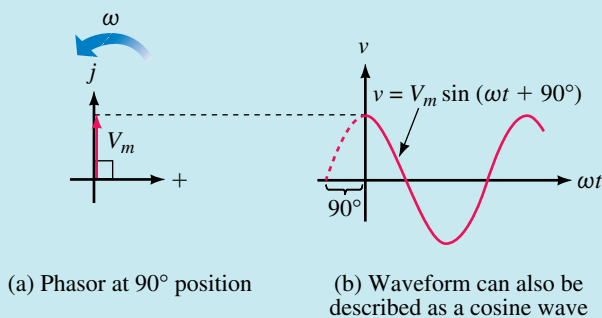

FIGURE 15-39 Demonstrating that $\sin(\omega t + 90^\circ) = \cos \omega t$.
- Same as Figure 15-39(b) except use $I_m = 50$ A instead of V_m .
Solution Place the phasor at 90° as in Figure 15-39(a). Note that the resultant waveform (b) is a cosine waveform, i.e., $v = V_m \cos \omega t$. From this, we conclude that